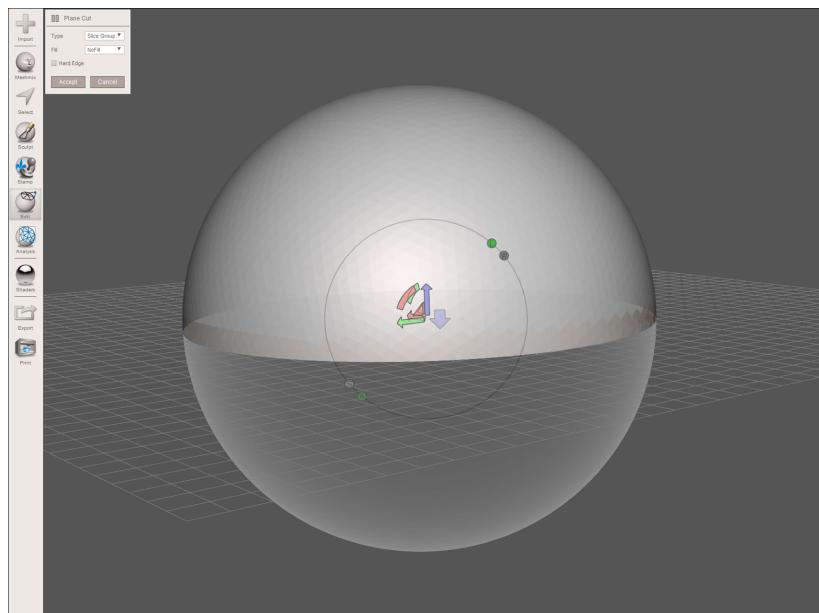

Figure 10-14. The Plane Cut pop-up window from the Edit menu option
1. Start by segmenting the sphere a few times. (You'll discover why later on.) Click the Edit button on the lefthand menu and you will see a Plane Cut pop-up window, as shown in Figure 10-14.
You will see a ball that is gray on the top side and colored on the other, as shown in Figure 10-14. The “Slice Groups” command splits the sphere into two separate “FaceGroups.” FaceGroups are simply areas of the mesh that allow you to